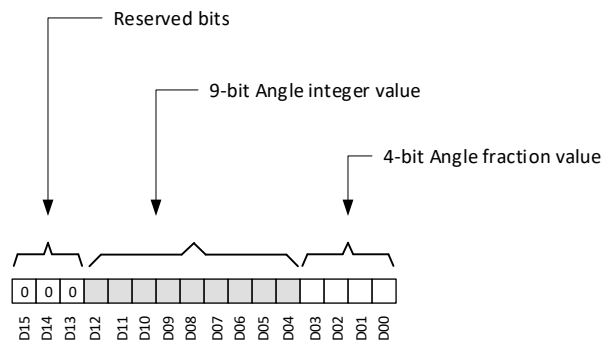

Figure 7-8. Angle Data Definition
The TMAG5170-Q1 calculates the angle based off the ANGLE_EN register bit settings. Figure 7-8 shows that the ANGLE_RESULT register stores the angle information in the 13-LSB bits. Bits D04-D12 store angle integer value from 0 to 360 degree. Bits D00-D03 store fractional angle value with a resolution of 1/16 degree. The 3-MSB bits are always populated as b000. The TMAG5170-Q1 CORDIC offers angle resolution of 1/4 degree. An external CORDIC may be used if higher angle resolution is required. Use Equation 7 to calculate the angle.
- D_i is the data bit as shown in Figure 7-8.